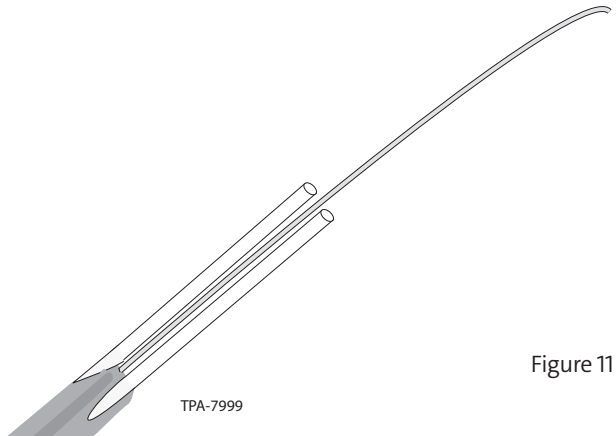

Figure 11
Step 5: The fiber is now exposed and both the cable and fiber are ready to be placed into the required hardware for the specific application (Figure 11).